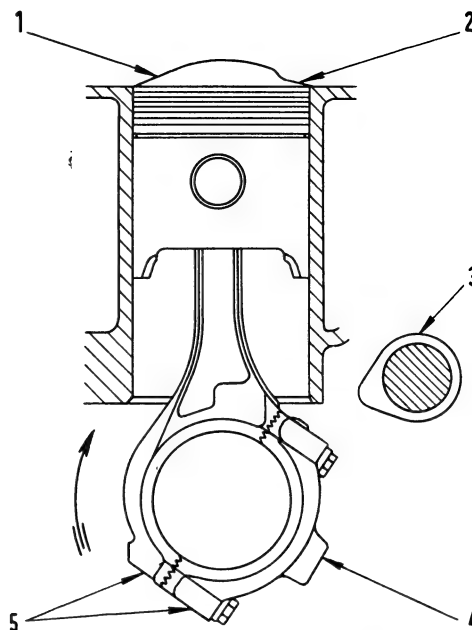

Fig. 19. - Connecting rod-piston assembly installation diagram. Engine 115 C.005.
Piston size group letter and number are stamped on piston crown on the opposite side to the head cavity (see 1, fig. 19).
- stamped at 4, fig. 19 for connecting rods;
- stamped at 1, fig. 19 for pistons;
Connecting rod identification number to match with the cylinder bore number should be stamped at 5, fig. 19. Remember to stamp identification number whenever installing new connecting rods.
The connecting rod must be assembled to the piston so that the number stamped on the connecting rod face (5, fig. 19) is on the opposite side to the piston top cavity (2).